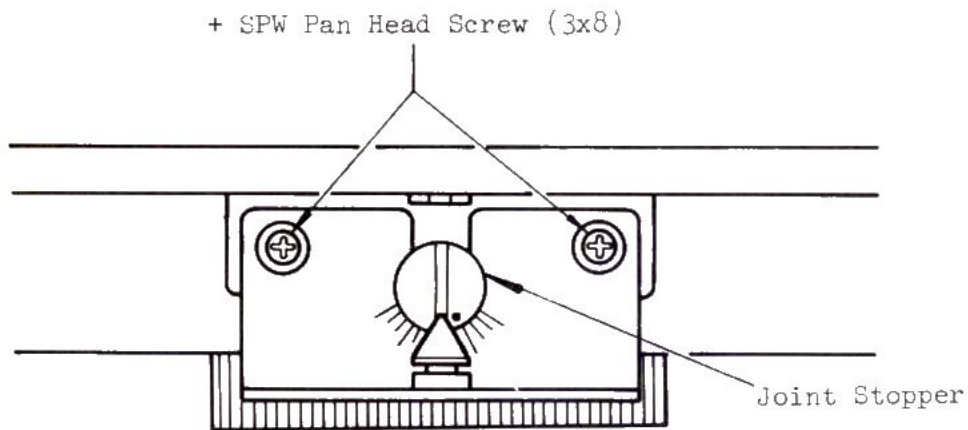

Fig. 39
- d) Prior to any adjustment, knit 40 - 50 rows, and check at what graduation the Joint Stopper is pointing to (see Fig. 39).